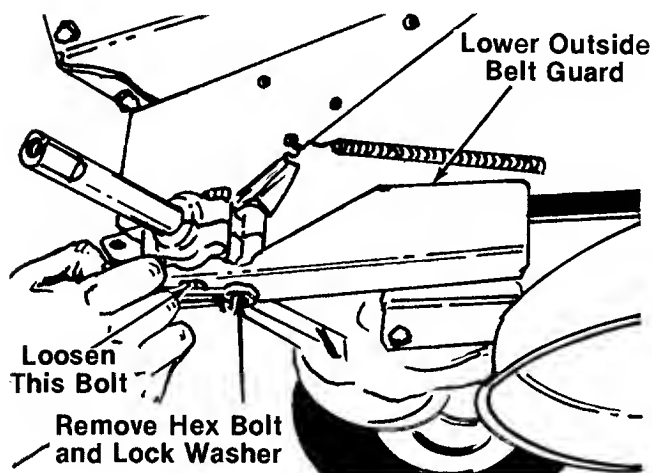

FIGURE 22.
4. Remove one hex bolt and lock washer at the front of lower outside belt guard. A 7/16" wrench is required. See figure 22.
5. Loosen (Do Not remove) the second bolt. See figure 22.